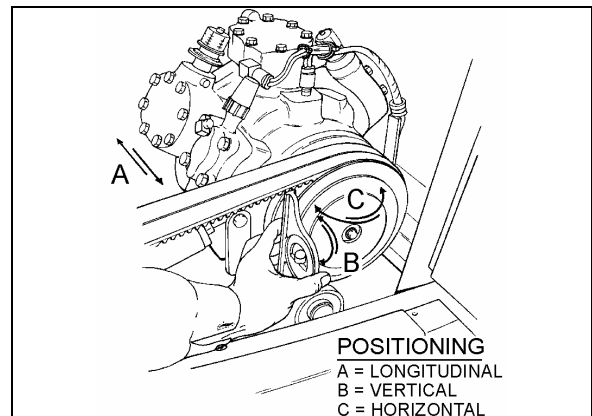

FIGURE 21: COMPRESSOR ALIGNMENT
1. Rest an extremity of a straight edge of approximately 46 inches (117 cm) against the upper part of the outer face of crankshaft pulley, positioning the other end close to the compressor clutch pulley (Figs. 21 & 22).
Rest a short "angle and level indicator" on the outer side face of the crankshaft pulley, adjust the level indicator inclination at 0° and check if the compressor pulley is at same angle (Figs. 21 & 22). If it is not the same, shim under the appropriate pillow block in order to obtain the correct angle.